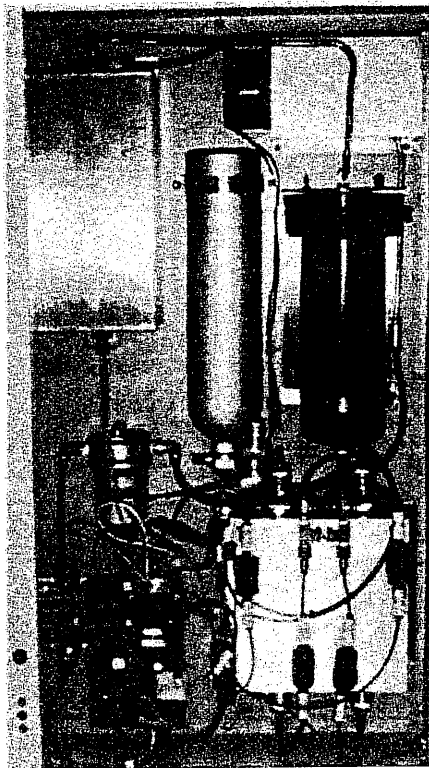

Figure 5 - VEM 6000 Internals
The primary maintenance tasks required by the VEM 6000 are changing the prefilter cartridge (annually), replacing the NOx scrubber (annually), and replacing the hydrocarbon catalyst module (3 years run time). These parts are easily accessible by removing the front panel of the generator using the key provided. A summary of the replacement part numbers and recommended service frequency is shown at the end of this Maintenance section. See Figure 5 for the location of the maintenance items.
Only an adjustable wrench is required to change the inlet prefilter cartridge (P/N 100-09-BX) located near the bottom left of the unit (see Figure 5). To remove the filter bowl, unscrew the large nut located on the bottom of the bowl with the wrench. Unscrew the filter bowl from the filter head by hand. Remove the element retaining disc holding the cartridge by unscrewing it from the tie rod. Slide the filter cartridge off and replace it with a new one. Replace the rest of the filter parts in the reverse order.
The tools required to change the module are as follows: a 9/16" wrench, an adjustable wrench, a large Philips head screwdriver, and rubber gloves. Follow the procedure below to replace the catalyst module, using Figure 5 as a guide to the various locations.
- 4 Disconnect the catalyst wiring harnesses that connect the circuit board to the catalyst module by unclipping the white plastic Molex connector and the gray plastic Wago connector (see Figure 5).